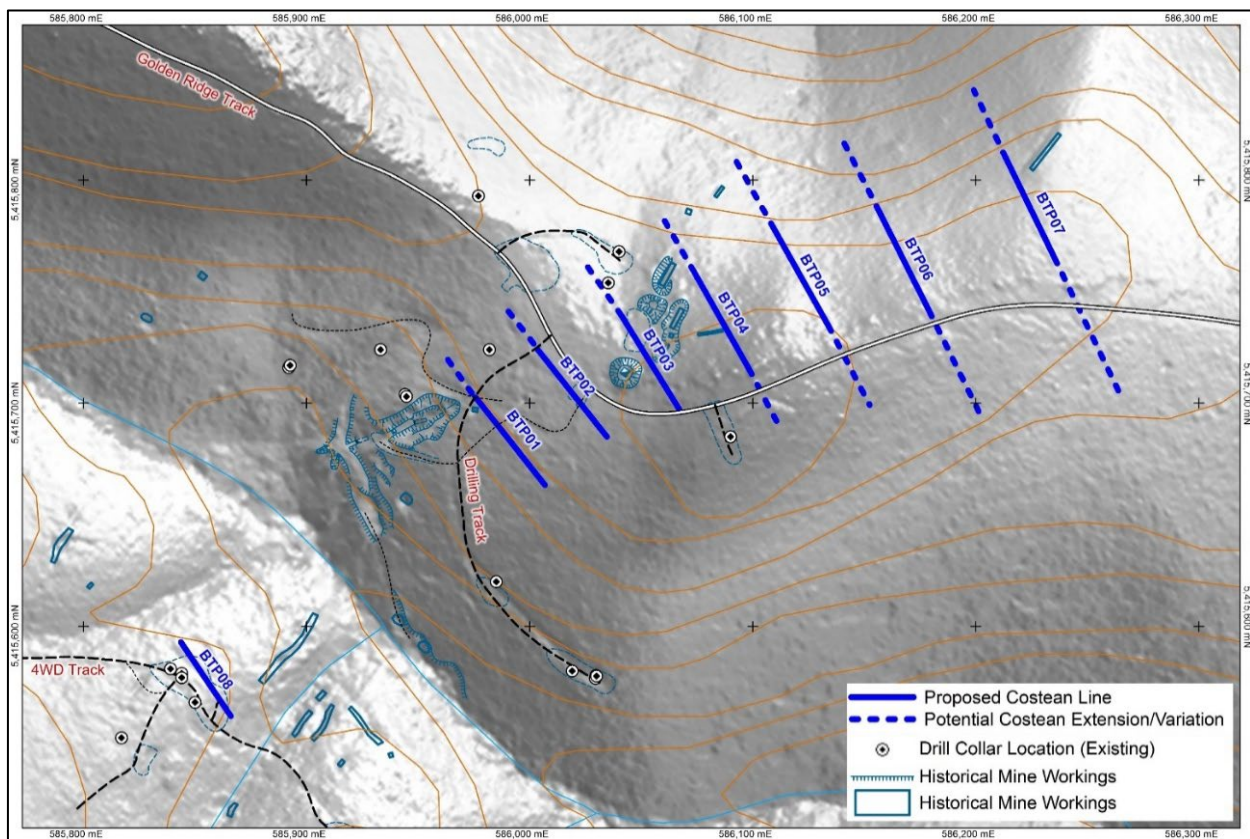

Figure 2 – Planned trenches/costeans at Brilliant Prospect over LiDAR topography.
- Trenching and channel sampling at the Brilliant Prospect, (Figure 2) targeting north-eastern extensions to the gold mineralisation recorded in historical trenching;
The proposed trenching program will comprise eight trenches for approximately 400 metres combined length with options to extend the trenches as required (Figure 2). Trenching has previously been successfully used by the Company to identify gold mineralisation at surface at the Trafalgar North, Grenadier and Double Event prospects